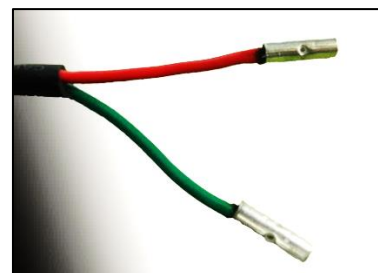

Figure 18
2.13.2. Secure the cable on the cable tie mounts. Route using added support **069099** (Step **2.7**) to avoid sharp edges. (Fig. 18).